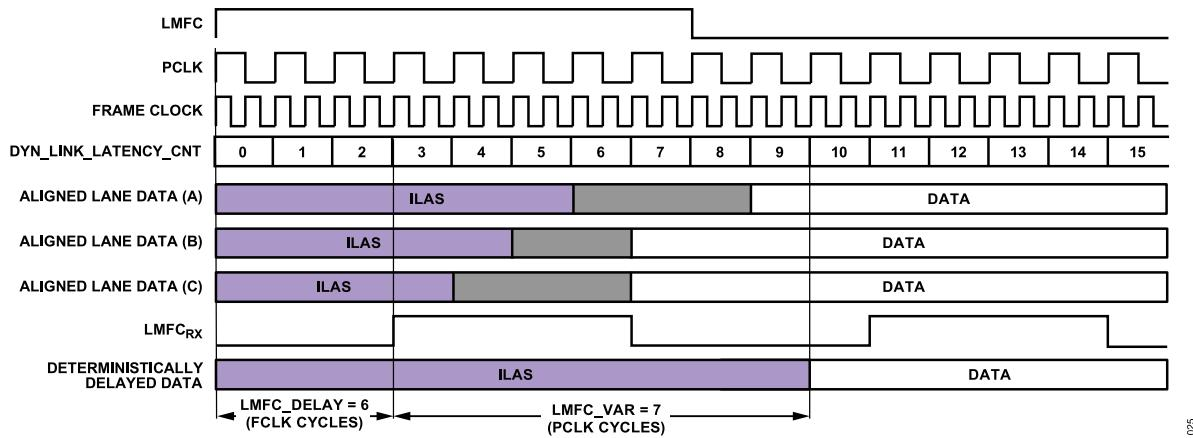

Figure 59. Multilink Synchronization Settings, Derived Method Example
Figure 59 shows how $\text{DYN_LINK_LATENCY}_x$ (Register 0x302 and Register 0x303) provides a readback showing the delay (in PClock cycles) between LMFC_{RX} and the transition from ILAS to the first data sample. By repeatedly power cycling and taking this measurement, the minimum and maximum delays across power cycles can be determined and used to calculate LMFCVar and LMFCDel .
The example shown in Figure 59 is demonstrated in the following steps according to the procedure outlined in the Without Known Delays section. Note that this example is in Subclass 1 to achieve deterministic latency, which has a PClockFactor (frame clock rate/PClockRate) of 2 and uses $K = 16$; therefore, PClocksPerMF = 8.
1. In Figure 59, for Link A, Link B, and Link C, the system containing the AD9135/AD9136 (including the transmitter) is power cycled and configured 20 times. The AD9135/AD9136 are configured as described in the Device Setup Guide. Because the point of this exercise is to determine LMFCDel and LMFCVar , the LMFCDel is programmed to 0 and $\text{DYN_LINK_LATENCY}_x$ is read from Register 0x302 and Register 0x303 for Link 0 and Link 1, respectively. The variation in the link latency over the 20 runs is shown in Figure 59 in gray.